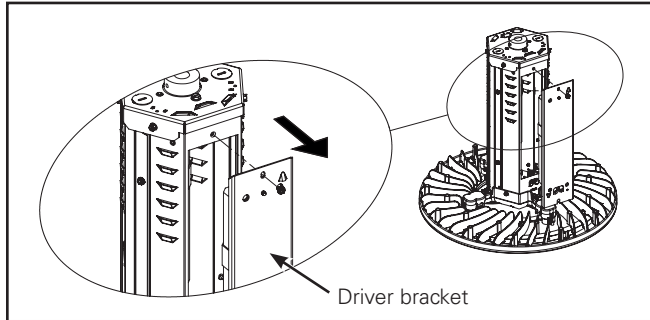

Figure 10.
1. Open driver bracket of either side of fixture (Figure 10).